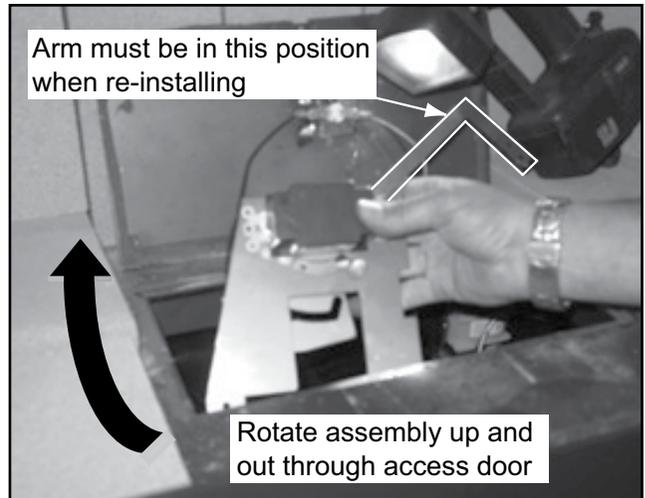
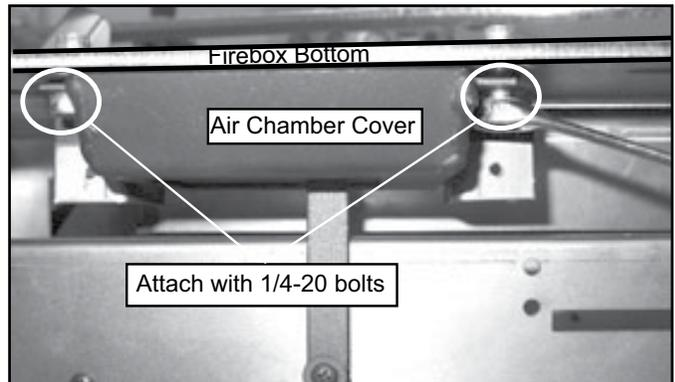

Figure 4.18
Figure 4.19
7. Remove old air chamber cover. Place the cover under the bottom of the firebox. Using a 7/16 wrench attach the (2) 1/4-20 bolts as shown in Figure 4.19. Insert the new timer assembly into the access door with the back side towards you. Please note the correct position of the linkage lower arm in Figure 4.18
8. After re-installing the timer assembly through the fire-box access door, re-attach the timer assembly to the air chamber cover using a Phillips head screw driver. Figure 4.18. (previous page)